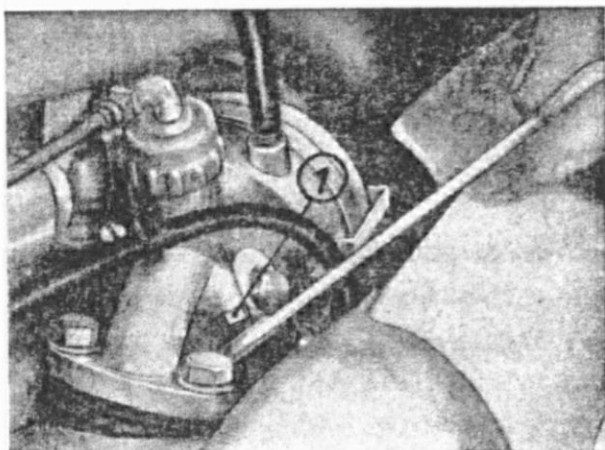

Fig. 33: Adjusting gas for idling
1. Loosen check nut (Fig. 33, No. 1) of the throttle slide stop screw.
4. When the engine threatens to stall, screw up throttle slide stop screw until the warm engine "ticks over" regularly (Fig. 33).